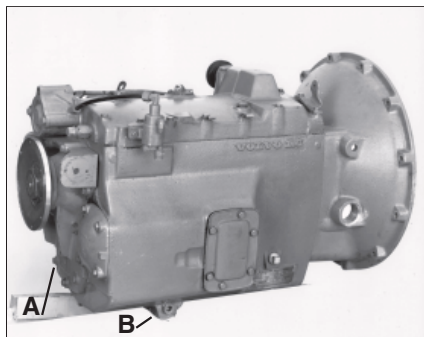

Fig. 1
Locate the countershaft cover (A) and Oil Drain Plug (B) in Fig. 1.